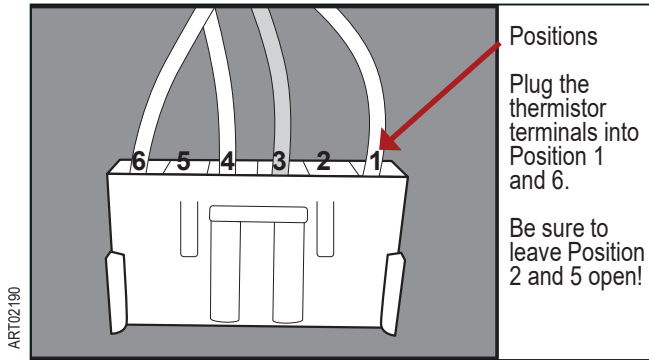

Fig. 7 Insert thermistor terminals into the connector
- Insert one of the thermistor terminals into the connector plugged onto P2 of the power board at the number 1 position and the other at the number 6 position. Refer to Fig. 7.